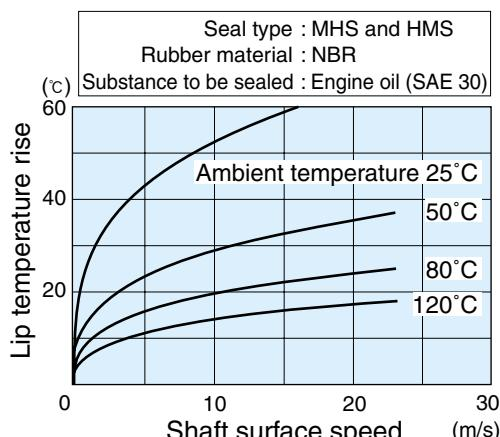

Fig. 1.6.2 Estimated lip temperature rise curves
- ② Determine the supposed ambient temperature
③ Find the point at which the ambient temperature curve meets the calculated shaft surface speed in Fig. 1.6.2
④ Read the ordinate value of the point
⑤ Obtain the estimated lip temperature by the sum of the ordinate value and ambient temperature
In Fig. 1.6.2, the cross of the curve for ambient temperature 80 °C and shaft surface speed 10.5 m/s indicates that the lip temperature rise will be 20 °C.